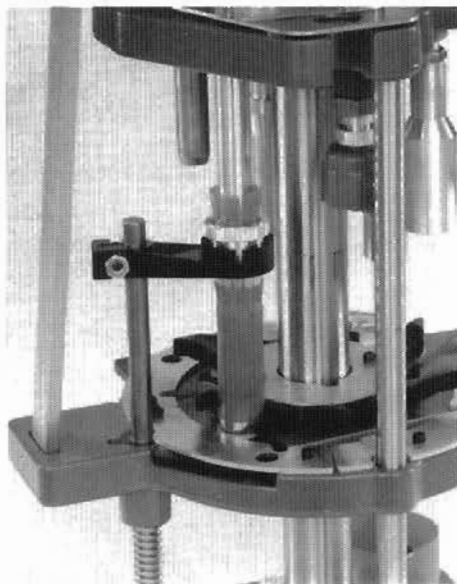

Fig. 26
**Figure 26** - Lower the handle completely. The wad guide will swing back in line with the hull, and the wad will be seated by the shot drop tube. Raise the handle and inspect. Generally, the wad should be seated so the top of it is 5/8" from the top of the hull mouth.